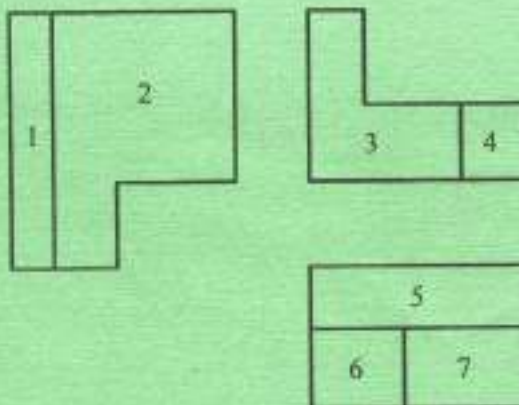

Fig. 4
- (b) Study the drawings in Figure 4 below and complete the table by matching numbered surfaces of orthographic drawing with the lettered surface of isometric drawing.